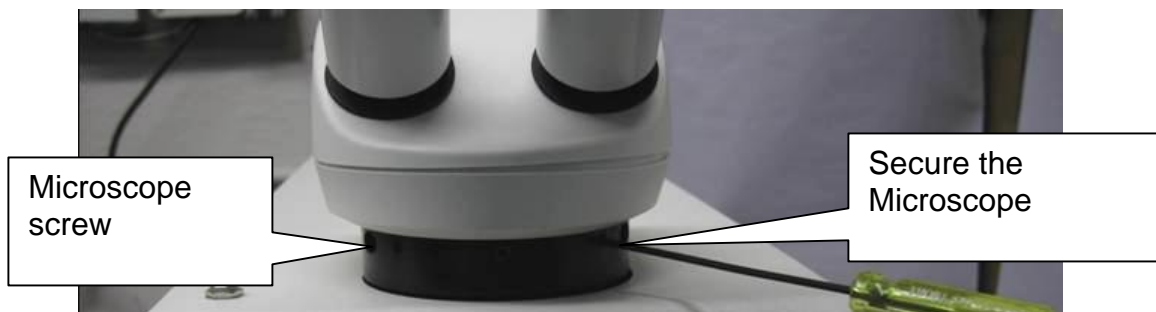

Figure 14
- J Install the stereo microscope with the (2) set screws **Figure 14**